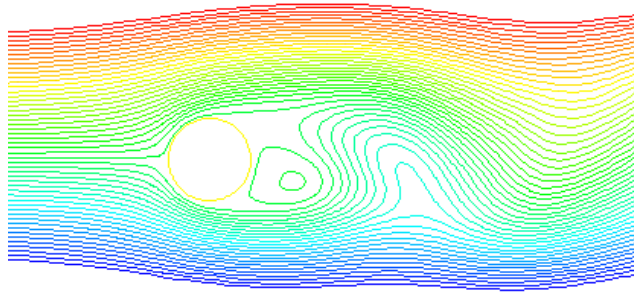

Figure 4.10.8: Magnified Contours of stream-function at $t=2800$ s
- (c) Select 420 for Time Step and click Apply to update the graphics display (Figure 4.10.8).